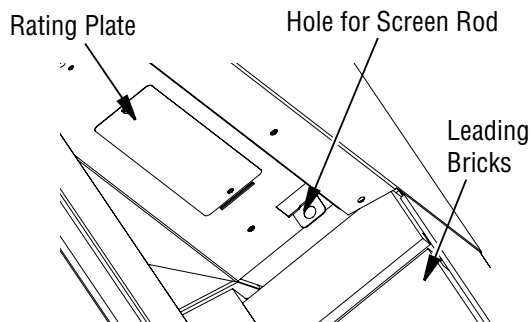

Figure 35 - Installing Fireplace Screen
2. Bend tab on both sides with the hole down to insert the round end screen rod into hole on the left and right side of smoke shelf (Figure 35).